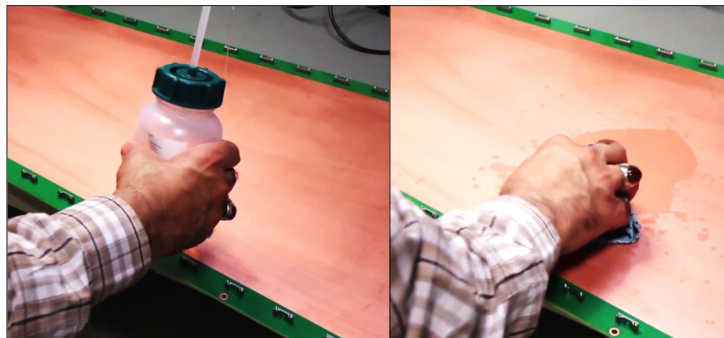

Figure 25: Cleaning of the active area.
Step 3: Clean the rest of the drift board with a clean piece of tissue using ethanol, insisting on the areas surrounding the pull-outs. Repeat this step until all stains and contaminants disappear (Fig. 25).